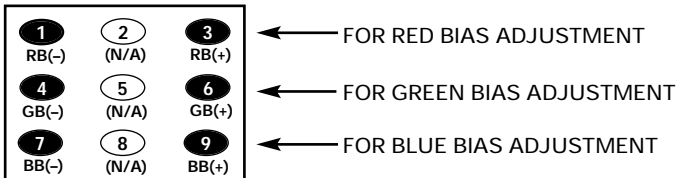

Figure 3.
**Note 4. Red/Green/Blue Bias Adjustments in Service Menu NO. 73:** Adjust each Bias Level with 1, 3, 4, 6, 7, or 9 key on the remote control. (See Figure 3.) The Bias Level adjustment data will be written in the Service Menu No. 15 ~ 17 automatically.